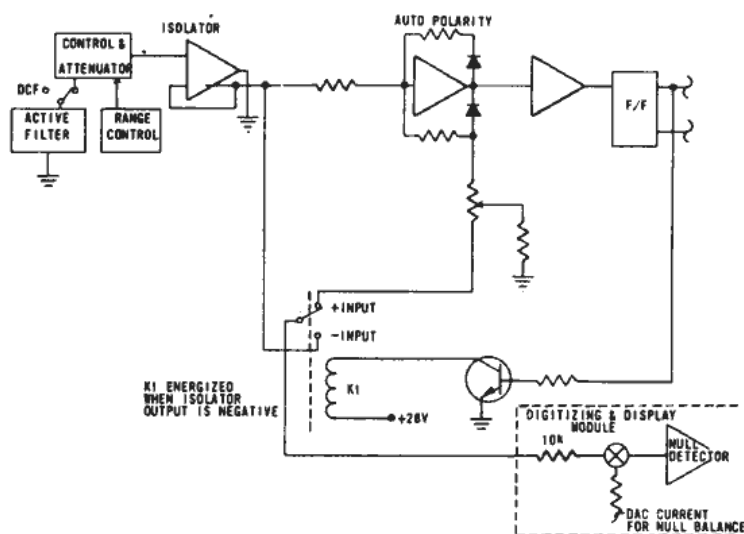

Figure 4.3. Block Diagram - DC and Ratio Modes
4.35. The circuit configuration used for the measurement of DC volts is shown in Figure 4.3. An identical arrangement is used when the instrument is in the ratio-measuring mode. The difference in these two types of measurements lies in the counter-balancing reference used in the Digitizing and Display section. DC volts are measured against a fixed internal reference; ratios are measured against an external reference.